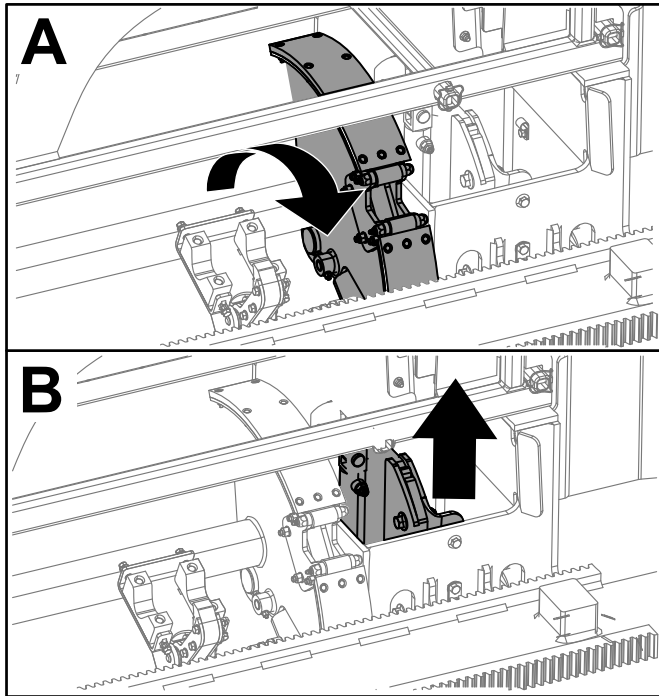

**Figure 29**
4. Release the rocker switch to proceed to the next step in the sequence (Figure 29).